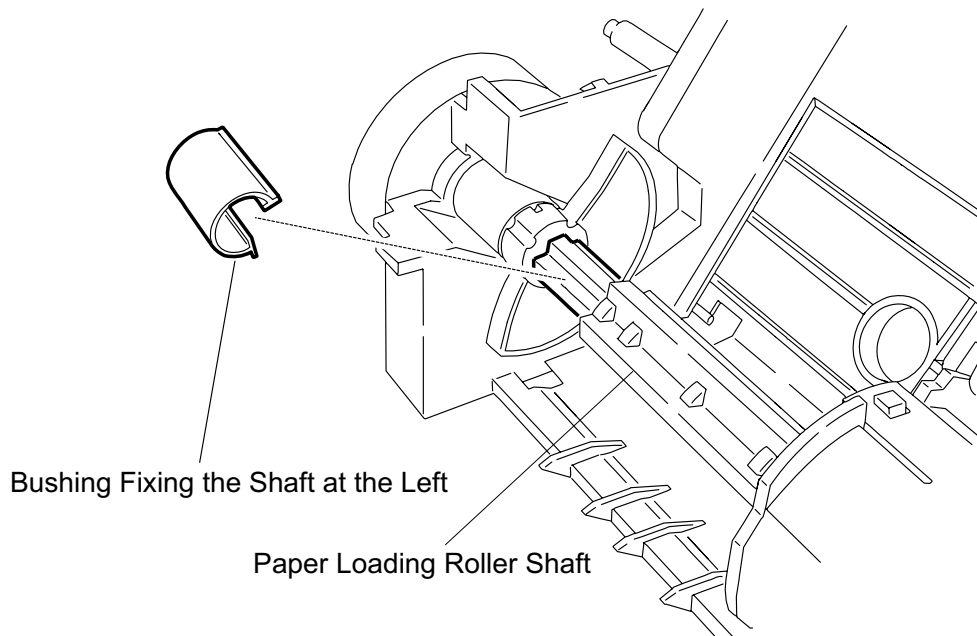

Figure 3-32. Bushing Removal
3. Remove the bushing from the left edge of the loading (LD) roller shaft in the ASF assembly. (See Figure 3-32.)
- The bushing at left end of the LD roller shaft must be located on the right of the left hopper release lever. (See Figure 3-32.)
3.12 Paper Feed (PF) Motor Assembly Removal